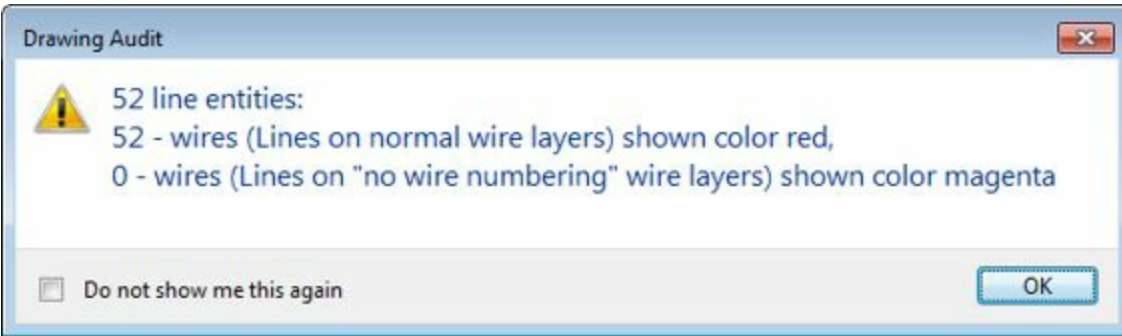

Figure-65. Drawing Audit dialog box
- Click on the **OK** button from the dialog box. The **Drawing Audit** dialog box will be displayed; refer to Figure-65.